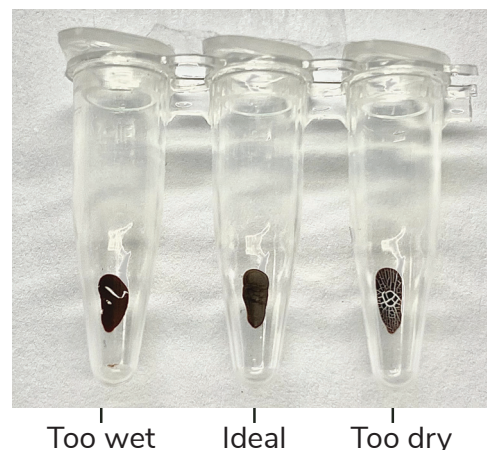

FIGURE 9
60. Remove tubes from magnet and air-dry, caps open, for 2-3 min at RT. Beads should appear damp matte brown (Figure 9). If beads are crackly and/or light brown, they are too dry.